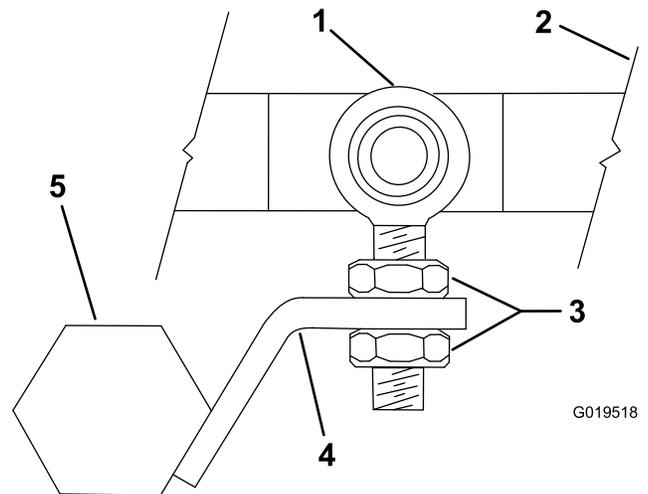

Figure 33
8. Loosen the locknuts on the blade (Figure 33).